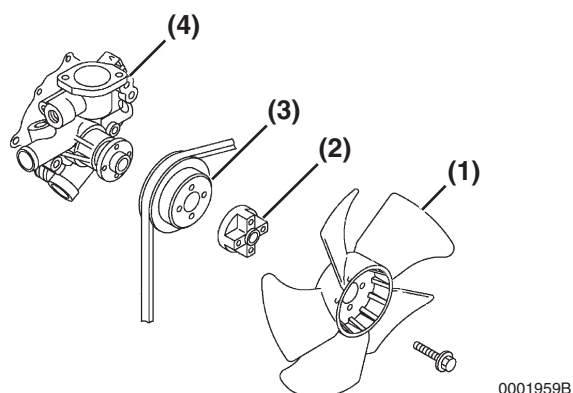

Figure 4-4-10
7. Reinstall the engine coolant pump V-pulley (**Figure 4-4-10, (3)**), spacer (**Figure 4-4-10, (2)**) engine coolant fan (**Figure 4-4-10, (1)**) and engine coolant fan guard (if equipped).